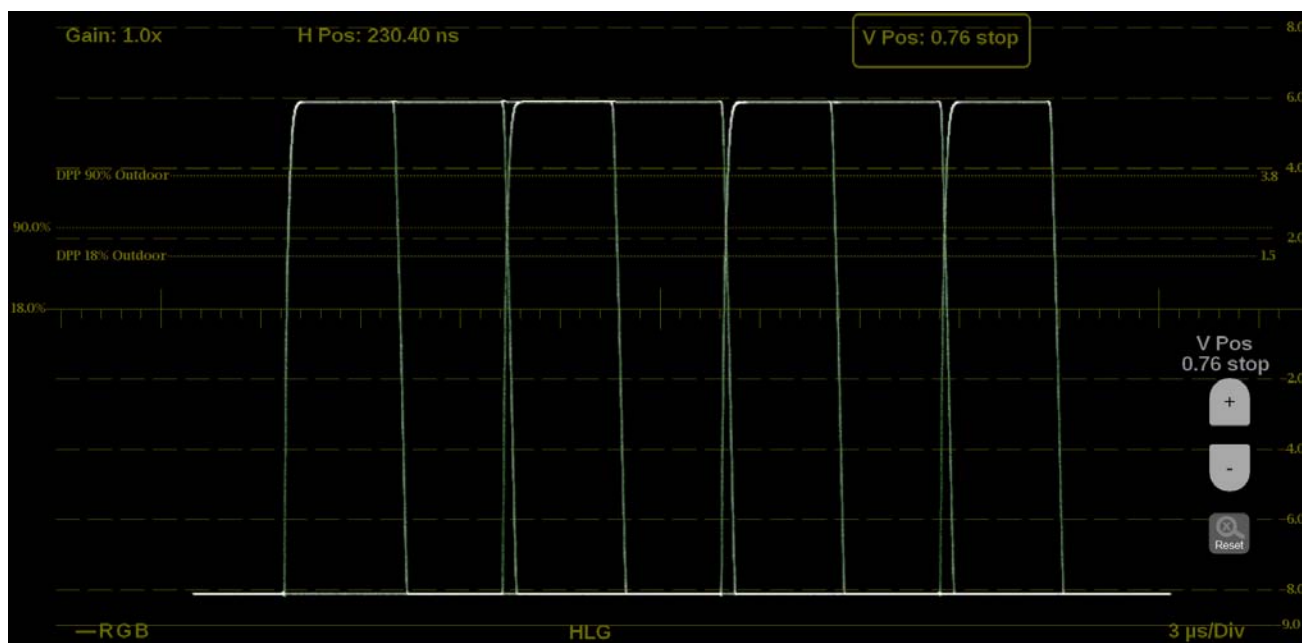

Figure 86: Stop Display on-screen tools – vertical position
2. Touch the **V Pos** button to allow adjustment of the vertical trace. (See Figure 86.)